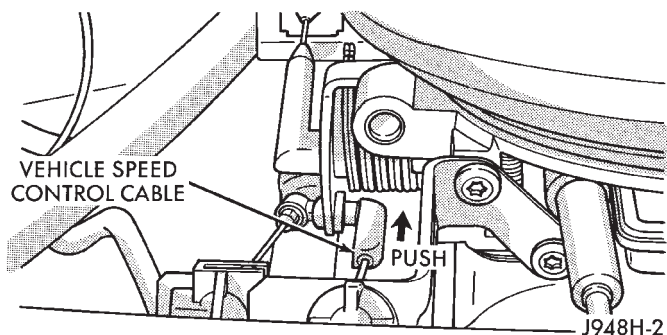

Fig. 7 Cable at Bell Crank—5.2L/5.9LV-8 Engines
- (3) 5.2L/5.9L Engines: Using finger pressure only, remove speed control cable connector at throttle body bellcrank by pushing connector rearward off the bellcrank pin (Fig. 7). **DO NOT try to pull connector off perpendicular to the bellcrank pin. Connector will be broken.**
- (4) 4.0L Engine: Remove cable from cable guide at top of valve cover.
- (5) Squeeze 2 tabs on sides of speed control cable at throttle body mounting bracket (locking plate) and push out of bracket.